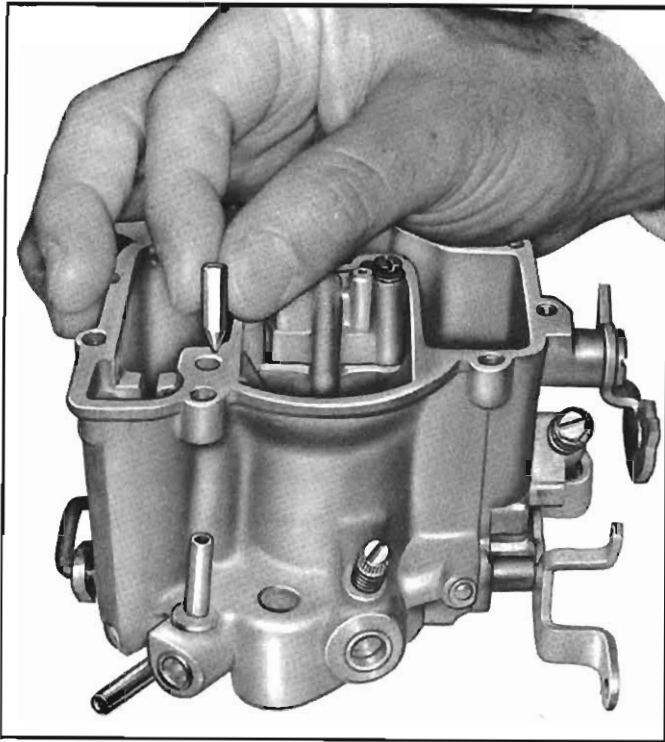

Fig. 19—Installing Pump Discharge Needle
- 5. Install pump discharge needle (fig. 19).